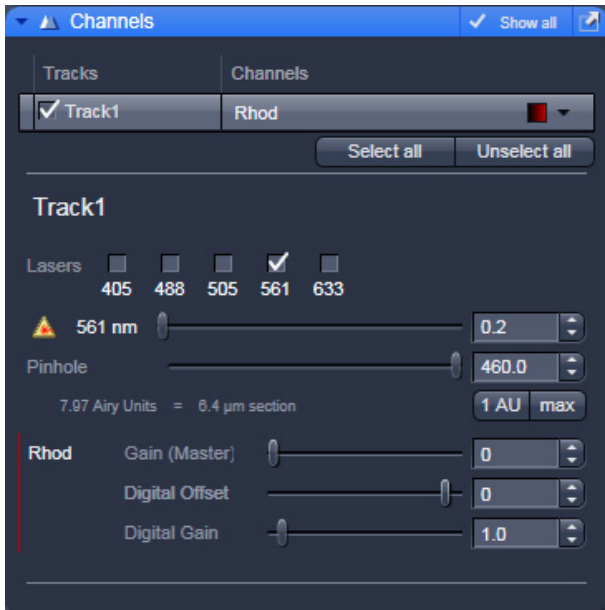

Fig. 5-63 Channels tool
- Activate the **Channels** tool (Fig. 5-63).